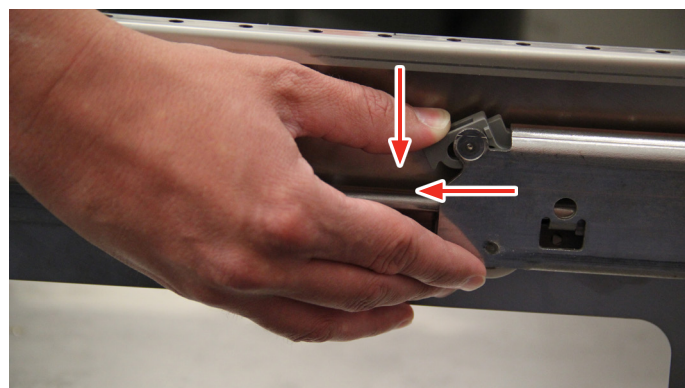

Fig. 14
3. Locate the drawer lock on the front of each drawer slider. Push down and pull the drawer locks toward the front of the drawers until they spring upward (Fig. 14).